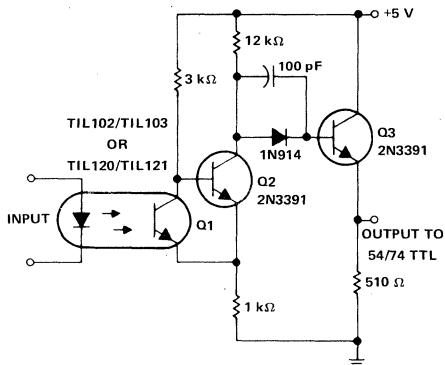
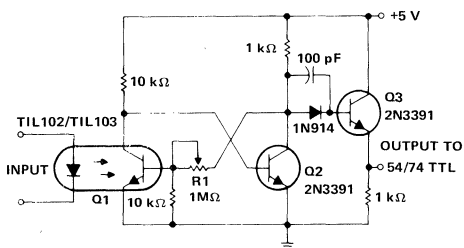

FIGURE 8. Optocoupler with Discrete-Component Schmitt Trigger for Driving 54/74 TTL
FIGURE 9. TIL102/TIL103 in a Schmitt Trigger for Driving 54/74 TTL
FIGURE 8. Two Counters with Identical Performance. Counter (A) Uses TIL306 Devices; Counter (B) Does not. Note how many less Components are Needed in the Counter Using TIL306 Devices.
Figure 8 is a photo of two counters with identical performance illustrating the difference in component count between a conventional counter consisting of SN7490, SN7475, and SN7447 TTL integrated circuits, resistors, with a display using TIL302 devices, and a counter using TIL306 devices. Both counters are specified to operate up to 15 MHz, using a six-digit readout. The counter using
trigger as shown in Figure 8. For this circuit, regeneration or positive feedback is provided by the coupled emitters of Q1 and Q2. The output of this circuit is noninverting and is compatible with TTL logic.
Another Schmitt trigger utilizing discrete components that makes use of the base connection of the TIL102/TIL103 is shown in Figure 9. In this circuit, positive feedback is provided from the collector of Q2 to the base of Q1. Resistor R1 limits the base current to Q1 and keeps the device off when there is no signal at the emitter. As with the circuit in Figure 8, the output of this circuit is noninverting and compatible with TTL levels.